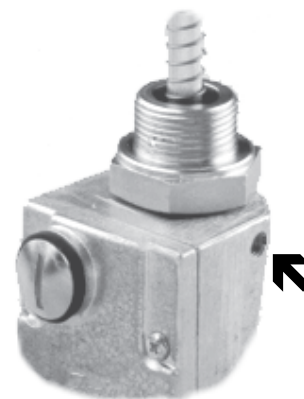

Fig. 3
2. Loosen the grub screw (fig. 3) on AKS 45 so that the nipple turns freely.